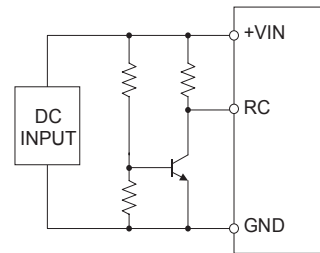

Fig.3.6 RC circuit for start up
- When start of DC INPUT is slow, BRNS may start on the outside of the operating area. By the circuit of the Fig.3.6, you can raise the start-up voltage.